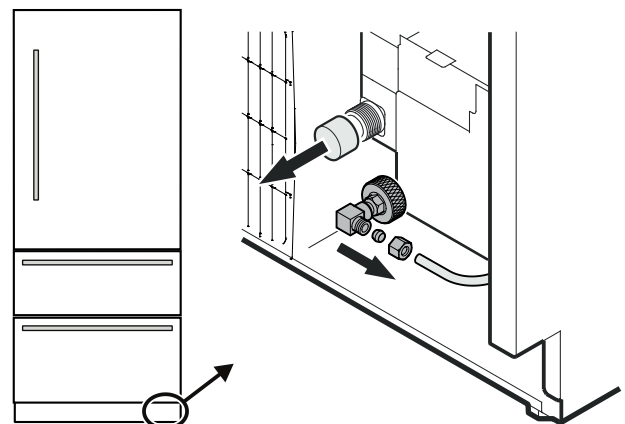

Figure 16
5. Remove the cover from the solenoid valve (**Figure 16**).